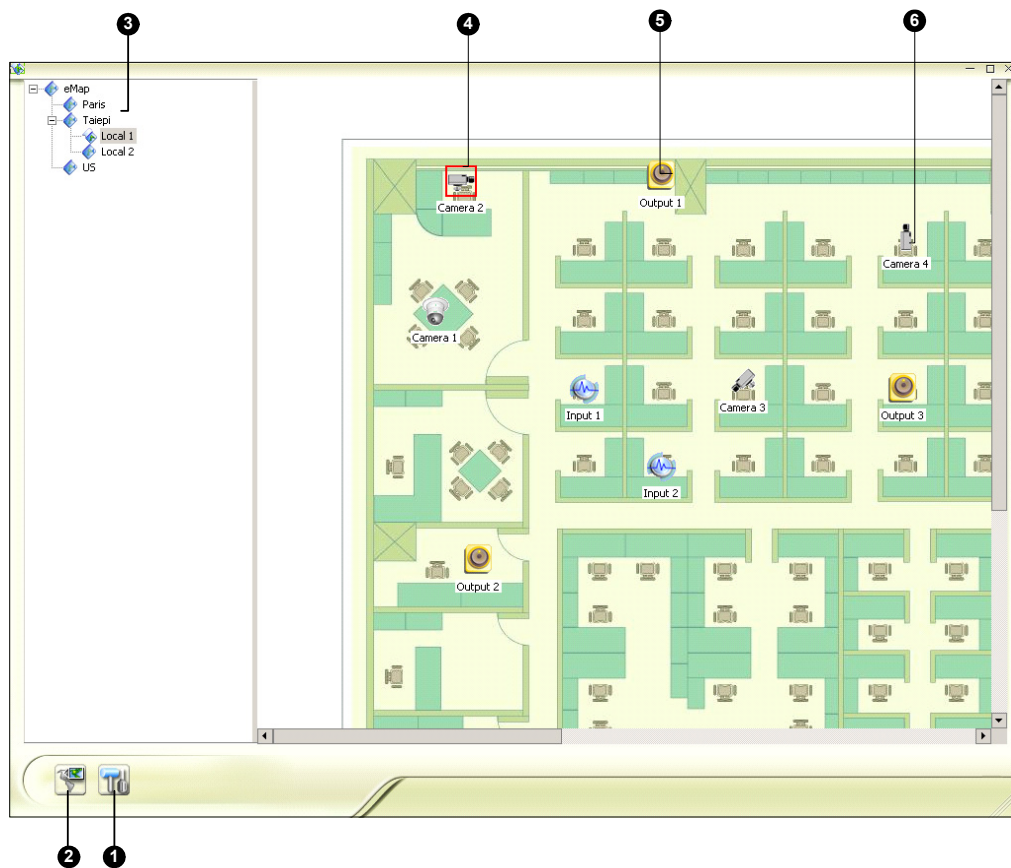

Figure 9-5 The E-Map Viewer Window
1. Click the **Popup Settings** button (No.1, Figure 9-5).
3. Click the **Toggle Popup** button (No.2, Figure 9-5) to enable the function.